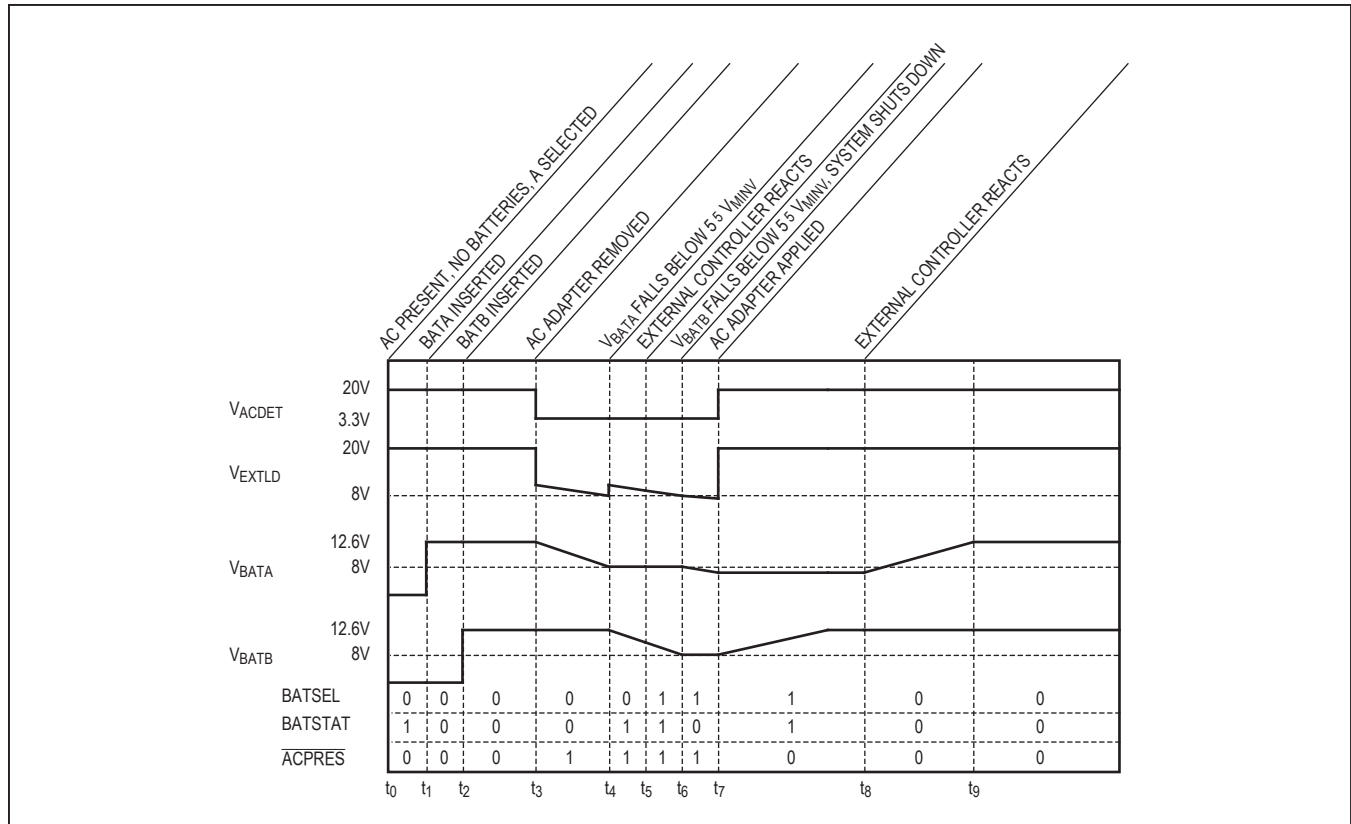

Figure 12. Charge/Discharge Example
Figure 12 shows a typical discharge and charge cycle for a system utilizing the MAX1773/MAX1773A, two 3-cell lithium-ion (Li+) batteries, and a 20V AC adapter power supply. The diagram starts with the AC adapter applied, no batteries present, and battery A selected (see the AC Adapter States section). BATSTAT = BATSEL = 1 indicates that battery A is not present and battery A’s charge path is not connected. If the external controller polled the MAX1773/MAX1773A as described in Status and Configuration, then BATSTAT would return BATSEL (0) to indicate that battery B is not present.